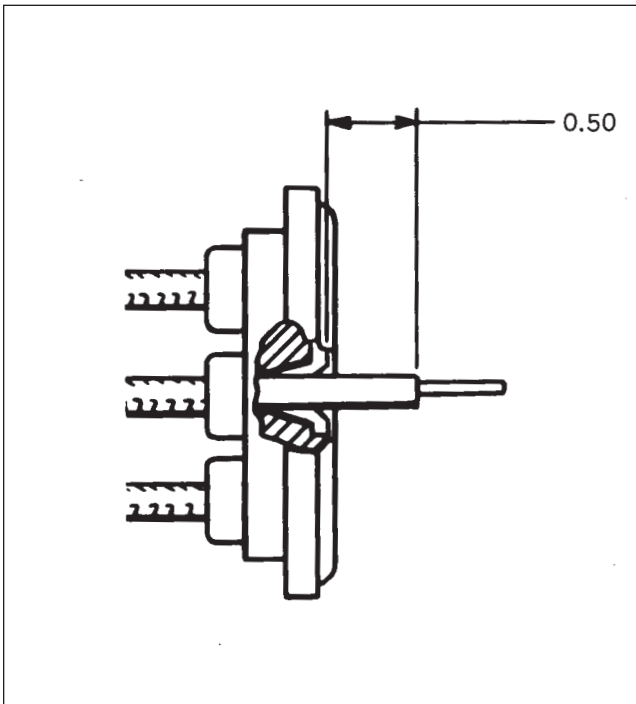

Figure 74-40. Measuring Wire From Top of Ferrule
- L. Measure 1/2 inch from tapered ferrule and strip remaining insulation from wire. (Refer to Figure 74-40.)